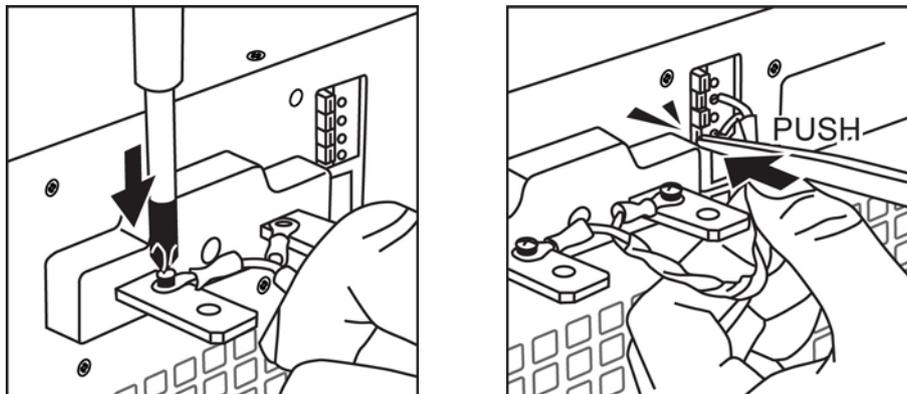

Figure 2-5
2. Figure 2-5 shows the correct connection. Use two wires to connect the positive/negative connector of load to the remote sensing connector on the rear panel. The connecting wire diameter must be larger than 30AWG and its withstand voltage should be within the specification.